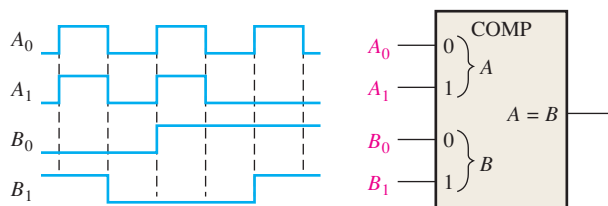

FIGURE 6-73
13. The waveforms in Figure 6-73 are applied to the comparator as shown. Determine the output ($A = B$) waveform.